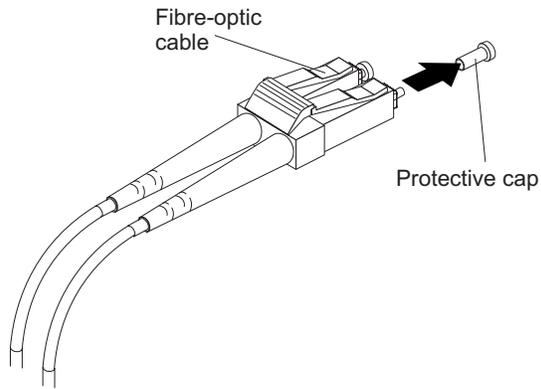

Figure 25. Removing fiber-optic cable protective caps
3. Remove the two protective caps from one end of the LC-LC cable, as shown in Figure 25 on page 38. Save the protective caps for future use.